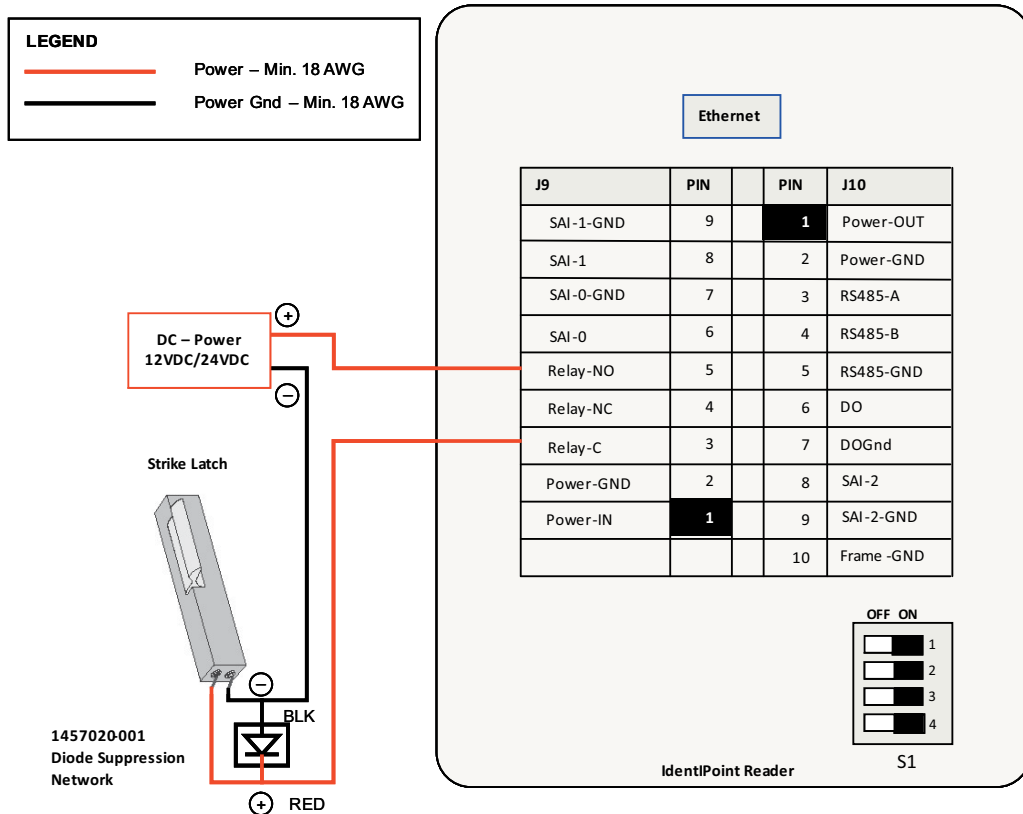

Fig. 25. Connections between reader and strike latch
EACH DOOR STRIKE REQUIRES A 14507020-001 DIODE SUPPRESSION NETWORK. DOOR STRIKE MAY DRAW A MAXIMUM CURRENT OF 2A; REGULATED 12/ 24 VDC. DOOR STRIKE AND REX MUST BE UL LISTED. SEE FIG.25 THROUGH FIG.28 FOR TYPICAL DIODE SUPPRESSION NETWORK WIRING.
**Use suppressors on door strikes and magnetic locks wherever required. Use 14507020-001 diode suppression network. Honeywell recommends only DC locks. See Fig.25 through Fig.28 for typical diode suppression network wiring.**